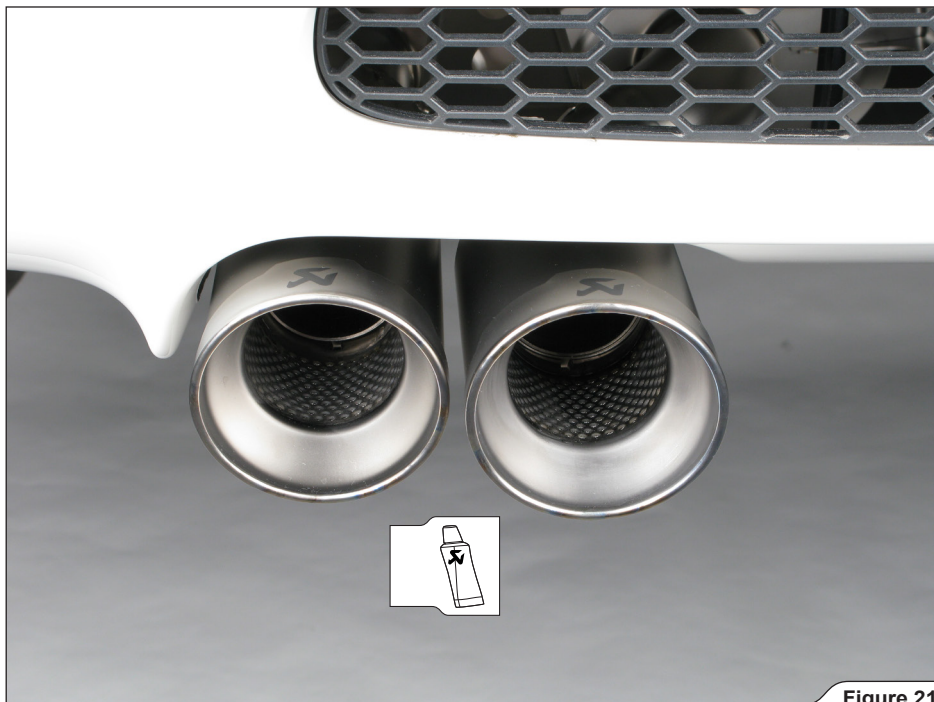

Figure 21
11. Slide and center the Akrapovič tail-pipes (in respect to rear bumper) onto the mufflers' outlet pipes as shown on both sides of the vehicle (**Figure 21**).